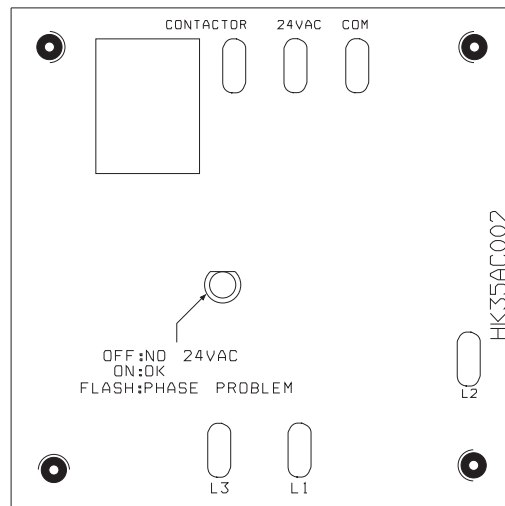

Fig. 4 – 3 Phase Monitor Control
On a call for cooling, thermostat makes circuits R-Y and R-G. Three phase models with scroll compressors, are equipped with a phase monitor to detect if the incoming power is correctly phased for compressor operation. (See Fig. 4 and Table 2.) If the phasing is correct, circuit R-Y energizes contactor, starting outdoor fan motor and compressor circuit. R-G energizes indoor unit blower relay, starting indoor blower motor on high speed.
- A flashing LED on phase monitor indicates reverse rotation. (See Fig. 4 and Table 2.)